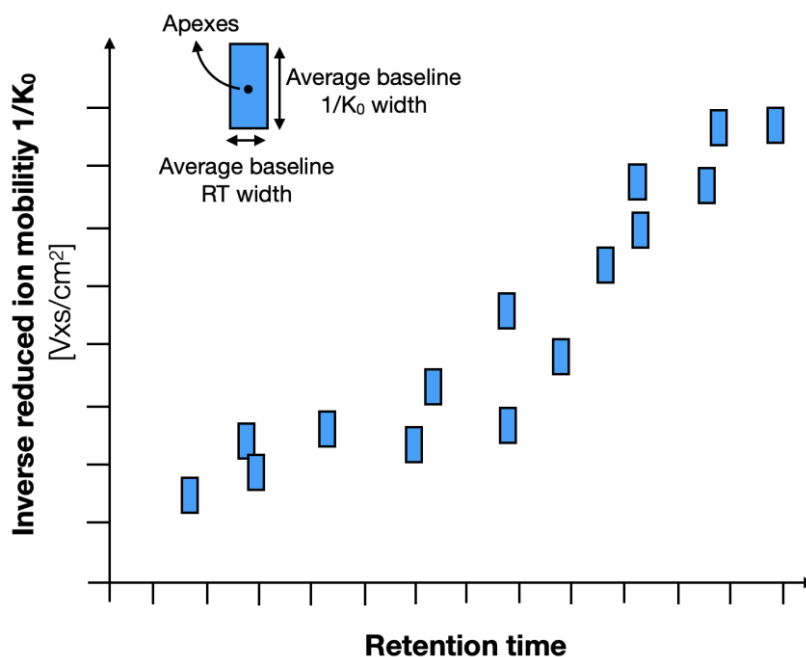

Figure 1 - Schematic plot of 1/K₀ vs RT. Analytes are represented by the blue rectangles.
1. **1/K₀ vs RT plot.** First, create a plot of inverse reduced ion mobilities (1/K₀) versus retention time for the compounds of interest (Figure 1). If these values are not available, they can be determined by first performing a pre-scan GC/LC-TIMS-MS run on a sample containing the analytes of interest.